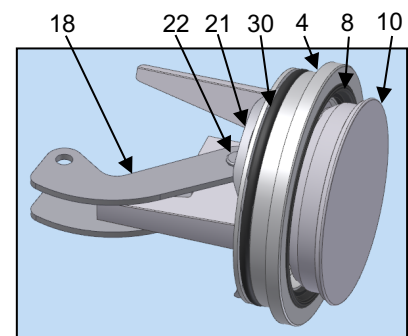

Fig. 12
- After the pin set has been removed, remove poppet assembly from the body bore. Carefully remove the Nosepiece (4) and Wave Spring (21). Do not nick the bore in the process. (See Fig. 12)
- If replacing Quad Seal (30) & Nose Piece Seal (8). Without scratching the seal seats on the Nosepiece (4), use a pick to carefully remove Nose Seal (8) and the Quad Seal (30). If not replacing Quad Seal & Nose Piece Seal Move to step 8.